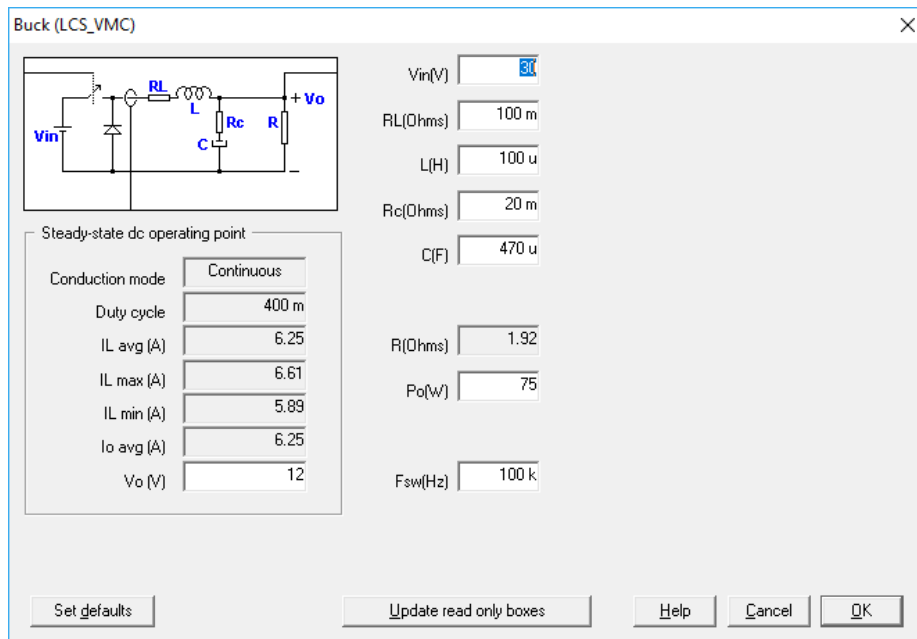

Figure 2: plant parameters
- a) Plant: select a buck LCS_VMC topology. See Figure 2.